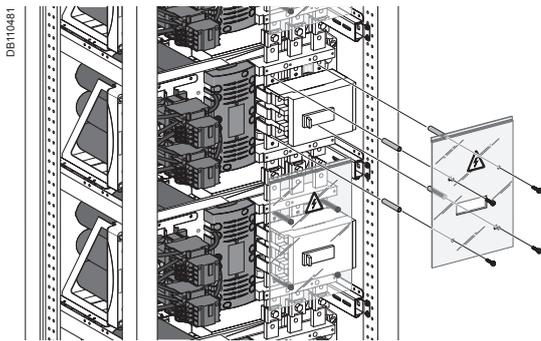

Fig. 18: protection barrier assembly details.
- break the triangle links (Fig. 18)